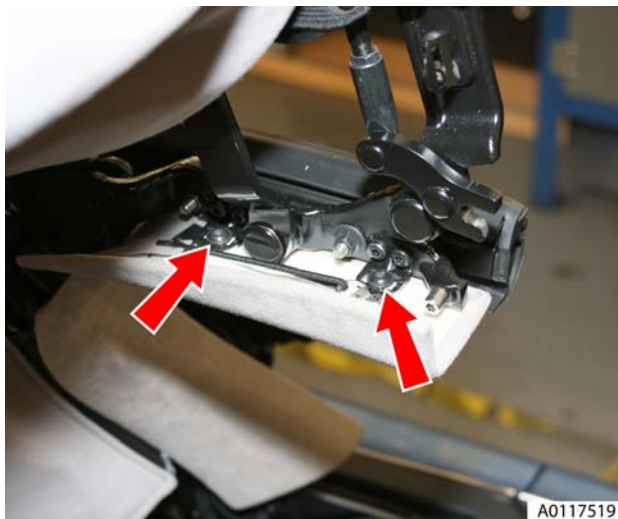

Figure 1
- Remove Torx screws (x2) securing trim to hood mechanism and release trim (see Figure 1).